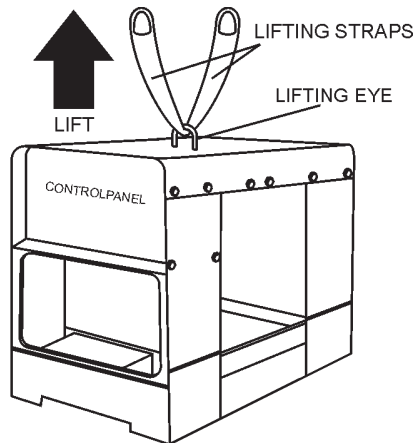

Figure 11. Lifting Equipment
- Insert a lifting strap through the lifting eye on top of the machine and raise the generator/welder off the ground using a lifting device of adequate capacity (Figure 11). The generator/welder can be suspended in air while installing the wheel kit or can be set down on an object which can support the weight of the machine. Ensure the bottom of the cabinet has enough clearance to install the wheel kit.